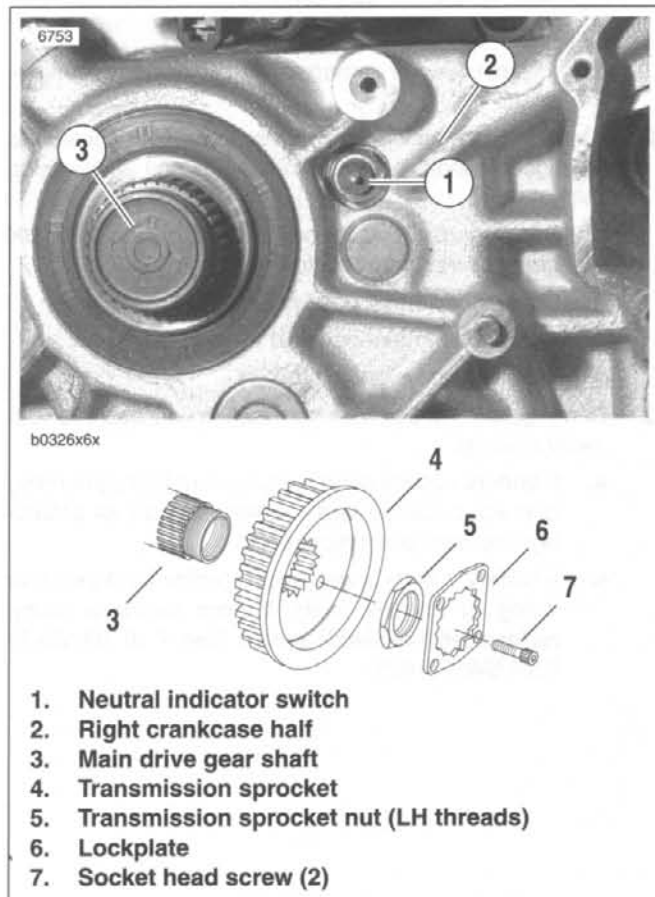

Figure 7-76. Neutral Indicator Switch
See Figure 7-76. The neutral indicator switch (1) is threaded into the transmission portion of the right crankcase half (2); it is immediately forward of the main drive gear shaft (3). The sprocket cover must be removed to test the switch. If switch requires replacement, secondary drive belt and transmission sprocket must also be removed; there is not enough clearance to allow the removal of the switch without first removing the transmission sprocket.
2. See Figure 7-76. Disconnect wire lead from neutral indicator switch (1).
3. See Figure 7-76. Place transmission in first gear. Remove two socket head screws (7) and lockplate (6).